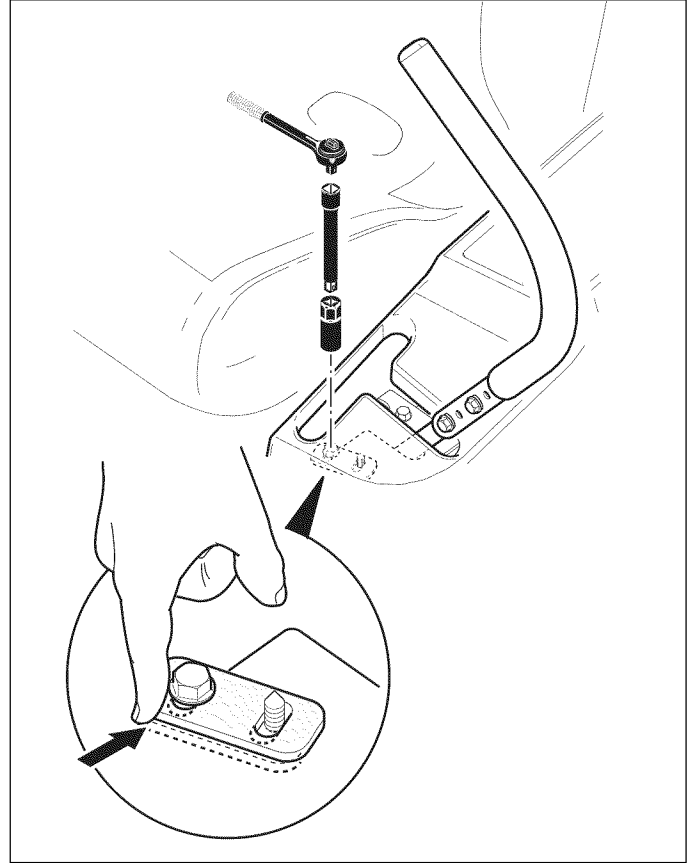

Figure 14. Ground Speed Lever Adjustments
Remove the ground speed lever mounting hardware (Figure 14) and reposition the lever either up or down from its original position. Replace the hardware.
1. Loosen the bolt securing the forward adjust plate (Figure 14).